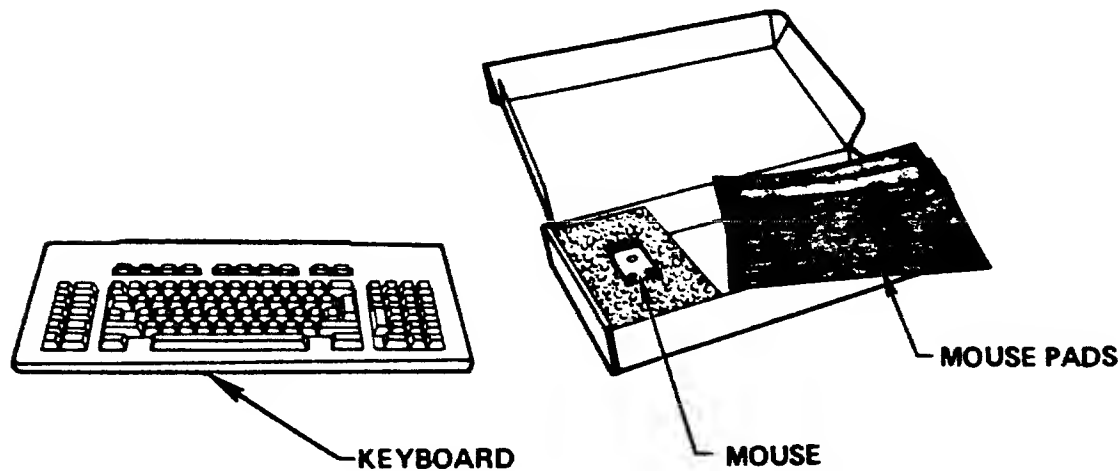

Figure 2-3. Contents of Installation Kit
1. Unpack the keyboard and keyboard cable from the box labeled Xerox 1186 Installation Kit (Figure 2-3).